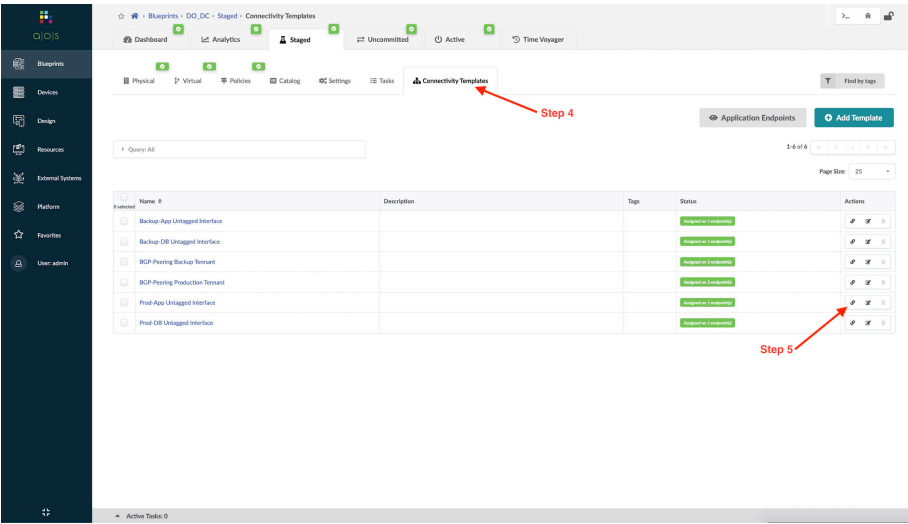

Figure 7.34 Choosing a Connectivity Template
Step 4: To assign a new port, go to Staged > Connectivity Templates. See Figure 7.34.
Step 5: Click the chain link symbol of the connectivity template that will be assigned to the port. The connectivity shown in Figure 7.34 has already been created. Please refer to the creation of connectivity templates in previous chapters.